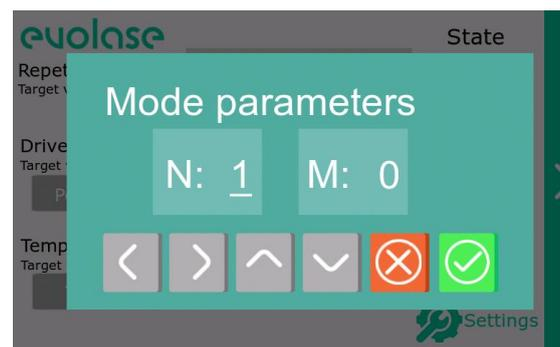

Figure 18 – Burst mode parameters
6. To set the burst mode parameters tap on button, use the left and right arrows to select the parameter to change, use the up and down arrows to change the parameters value (fig. 18). Press button to save the changes and exit menu. Press button to exit menu without changes.